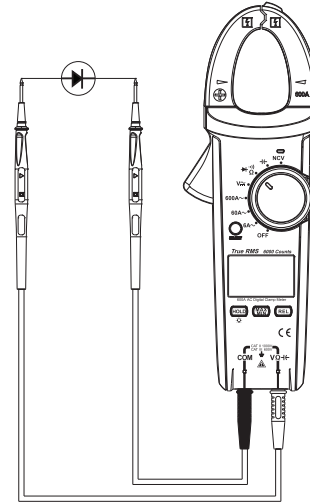

Figure 8
6. Diode Measurement (See Figure 8)